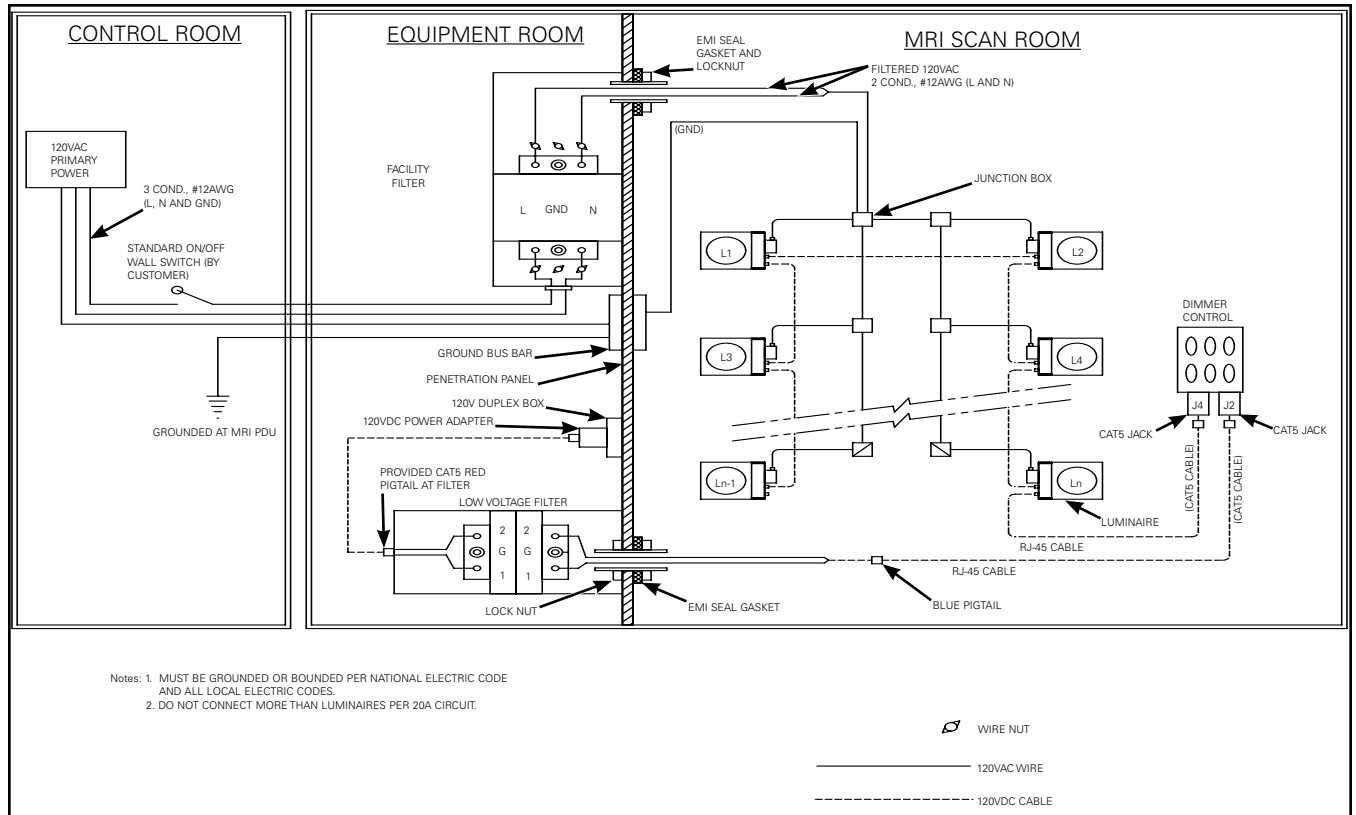

Figure 14. Dimming System Installation—Internal to MRI Room
4. Important note: All RJ45 cables are to use the 568-B configuration. Route a RJ45 cable from dimmer to the nearest F6MRI fixture into the dimmer control box. Plug it into RJ-45 connector on back of the dimmer control panel. Connect all remaining lamps daisy chain fashion. See (Figure 14.).